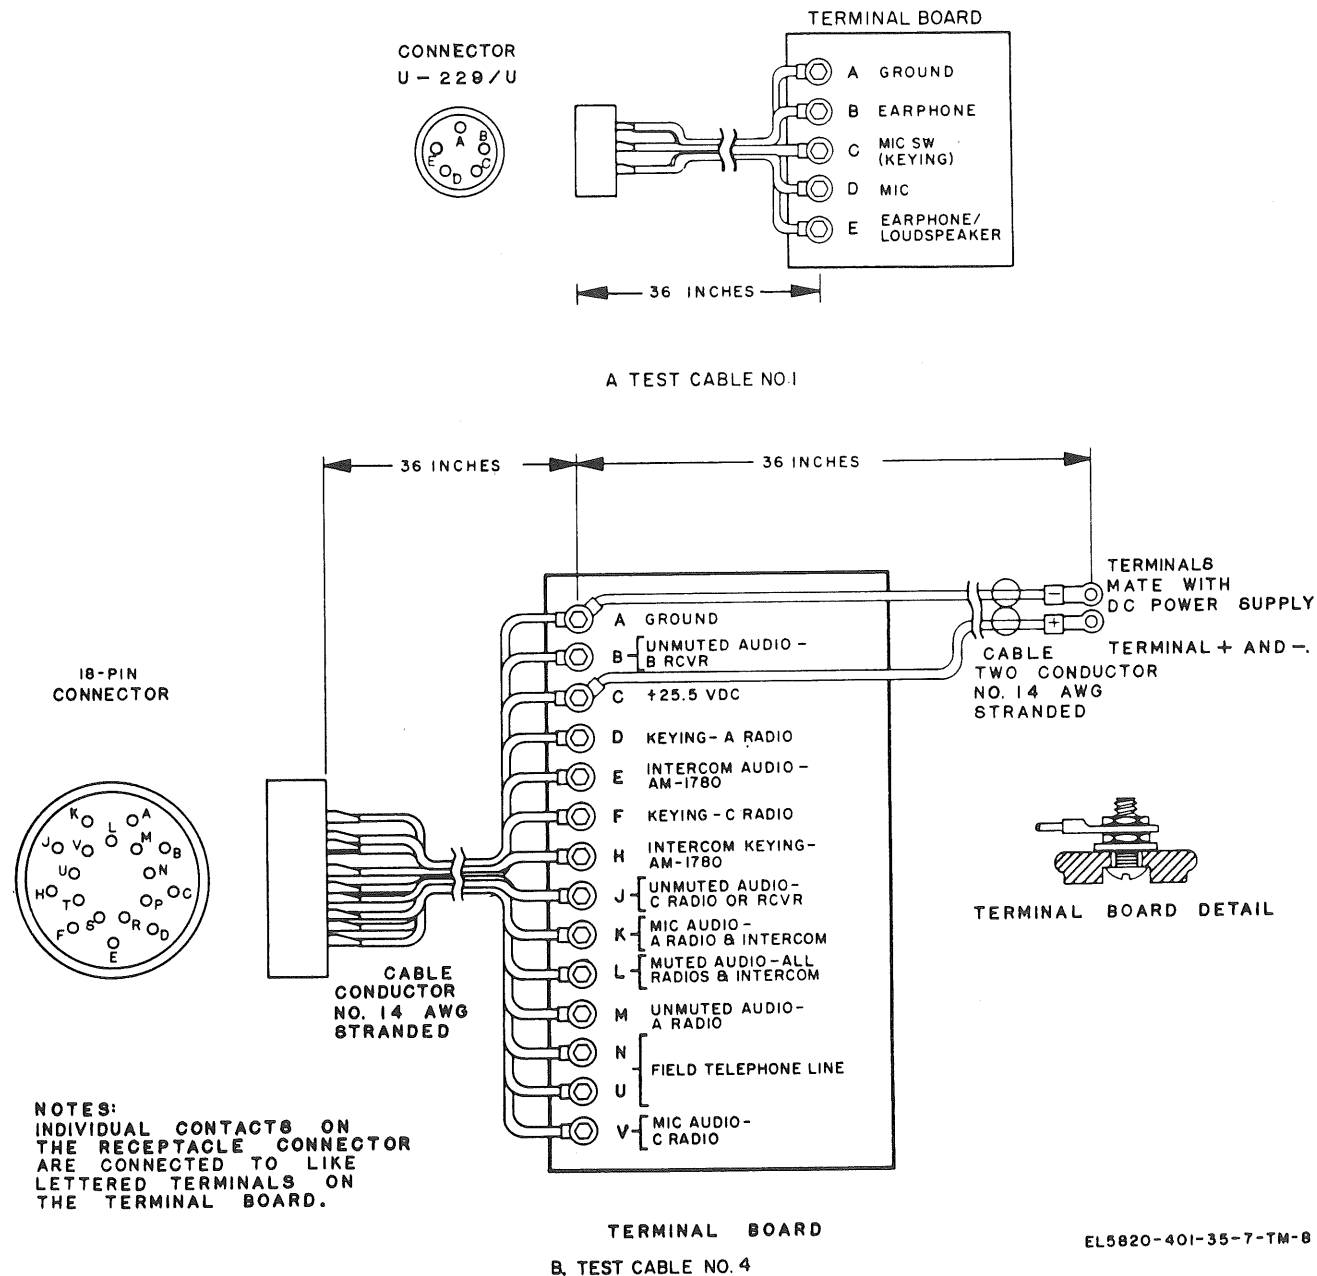
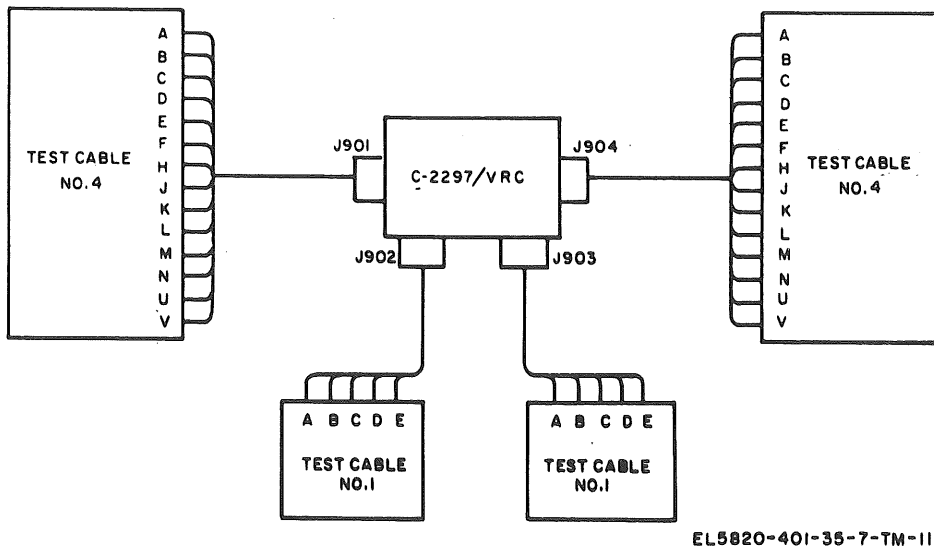

Figure 3-1. Fabrication details for test cables No. 1 and 4.
Figure 3-3. Connection of test cables to C-2297/VRC.
- (1) Test cable No. 1 (2 each), fabricated in accordance with details in A, figure 3-1.
- (2) Test cable No. 4, fabricated in accordance with details in B, figure 3-1.
- (1) Connect the test cables to the C-2297/VRC as shown in figure 3-3.
- (2) Connect a 150-ohm resistor to terminals K and A of test cable No. 4.
- (3) Turn off the PP-1104/G and connect
its output to terminals (C (+) and A (negative, ground) of test cable No. 4 (B, fig. 3-1).
(7) Disconnect the AN/URM-127 and TS-723(\*)/U from the test cables.
(8) Turn off the PP-1104/G.
(9) Connect a 150-ohm resistor across terminals B and A of test cable No. 5.
(10) Turn on the PP-1104/G. The C-2297/VRC indicator lamp should light.
(11) Set C-2297/VRC SIG-EXT-OFF switch to EXT position. The indicator lamp should light.
(12) Connect the TS-352B/U, adjusted to measure 50 volts dc, to terminals C (+) and A (negative, ground) of test cable No. 5. The power supply voltage (25.5 volts) should be measured.
(13) Remove the 150-ohm resistors from the test cables.
(14) Turn off the PP-1104/G and remove the power connection of test cable No. 4 from the PP-1104/G (B, fig. 3-1).
(15) Perform the continuity and VOLUME control tests in *c* and *d* below.
*c. Continuity Tests.* Use the TS-352B/U, adjusted to measure resistance (RX1) to make the following circuit continuity measurements. Leave the test cables connected to the C-2297/VRC (fig. 3-3). Continuity (0 ohm) should be obtained for each terminal-to-terminal measure-